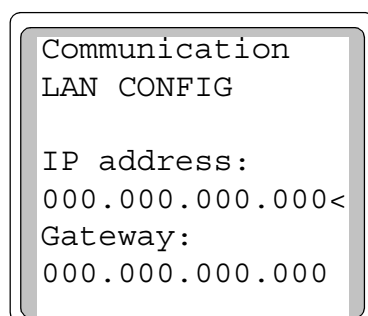

Figure 14 LAN configuration settings display
- b A display appears (Figure 14):